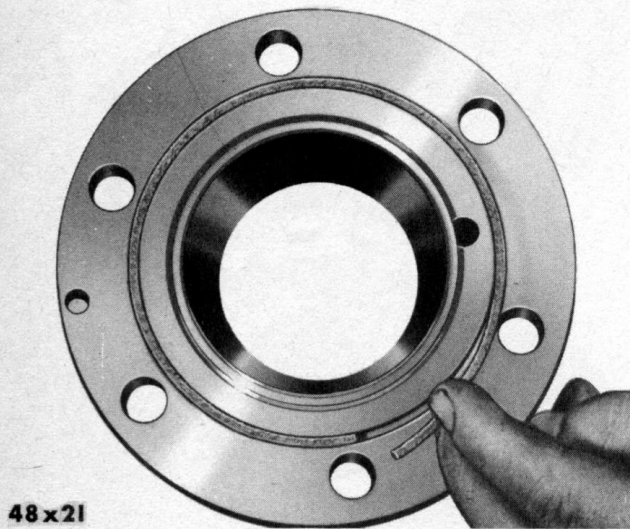

Fig. 66—Replacing Pinion Cage Cork
- (10) Use ball peen hammer to drive out bevel pinion assembly. Note shims under pinion bearing cage. Check for end play in bearings before disassembly.
- (11) Take out cotter pin, loosen pinion shaft nut and slide off companion yoke.
- (12) Lift off pinion bearing cage, bearing and washer. Slip off pinion bearing spacer.
- (13) Remove rear pinion bearing, using a suitable puller.
- (14) Remove pinion cage cork (Fig. 66). Cork must be replaced before assembling.
- (15) Install differential assembly in a vise,